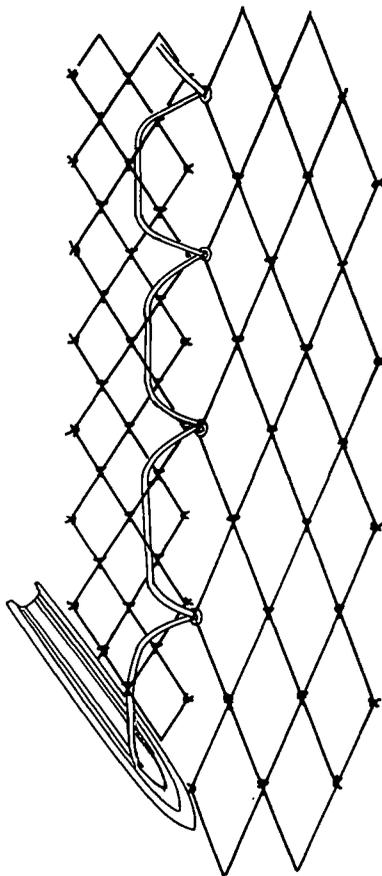

Fig. 43
2. Knots are only tied on the side of the join that has the largest mesh material in it. The twine is simply passed "behind the knot" along the edge of the smaller mesh piece (Fig. 43). (Behind the knot means behind the first knot in from the edge that has four bars leading to it.)